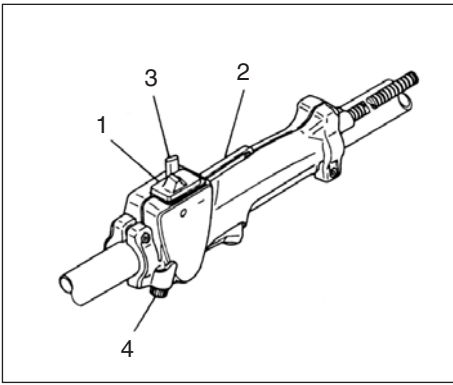

Fig.2-5
Starting (Fig. 2-5)
Throttle limiter (4) is to adjust maximum opening of throttle. At the factory it is adjusted at its full opening. (If so equipped) (Fig. 2-5)